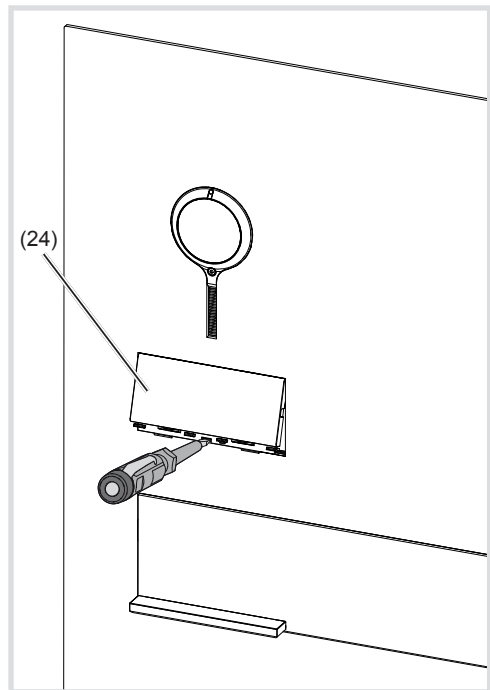

Figure 18: Dismantling the call push-button module cover
- Press up the call push-button module cover in the bottom lever opening with the screwdriver and guide it forwards (Figure 18).